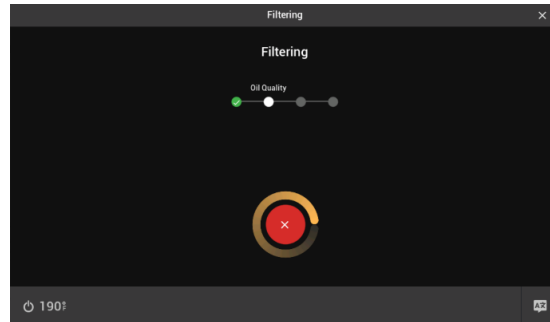

**Figure 105 - Draining without FDF**
**Draining timer - Figure 105 or Figure 106.**